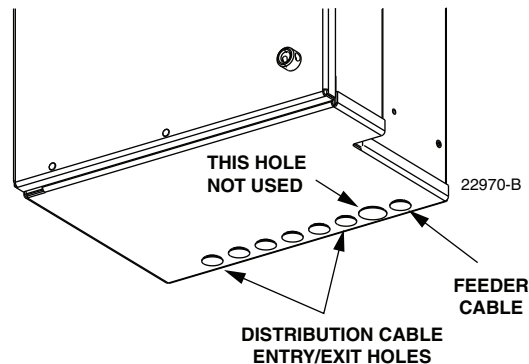

Figure 32. Feeder Cable Bottom Entry/Exit Hole
13. Locate the cable entry/exit hole (on the bottom of the cabinet) that is specified for feeder cable installation as shown in Figure 32.